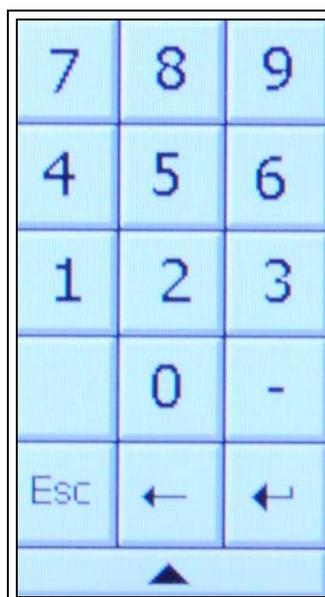

Figure 4Q Number Keypad
2. In the "Modify Spout Positioning" screen select the spout that requires adjustment by touching the value pad next to the spout number balloon. A number keypad will display. (See Figure 4Q.)